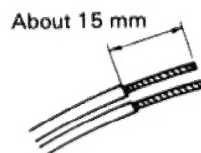

Fig. 33
2. Peel off the coverings so that the respective conductor tops appear by about 15 mm as shown in Fig. 33.